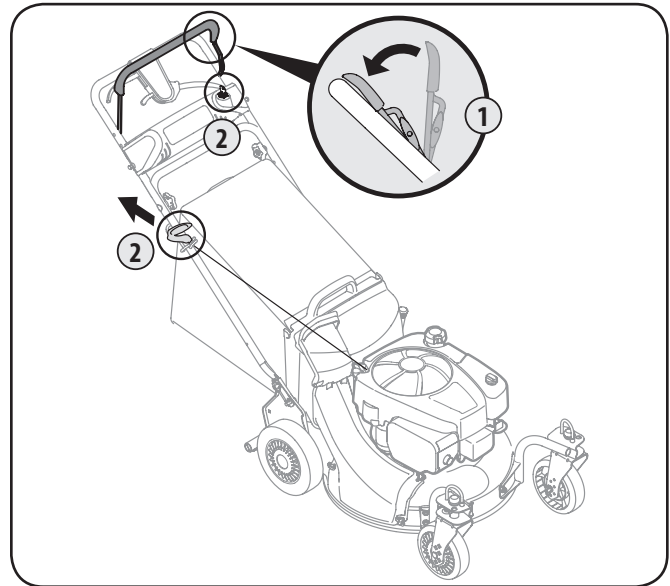

Figure 5-1
2. **Recoil Start:** Holding these two handles together firmly, grasp recoil starter handle and pull rope out with a rapid, continuous, full arm stroke. See Figure 5-1. Keeping a firm grip on the starter handle, let the rope rewind slowly. Repeat until engine cranks. Let the rope rewind each time slowly.